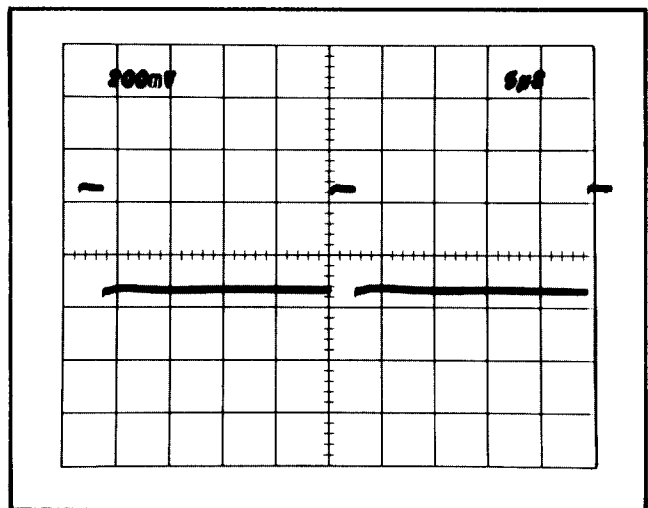

Fig. 5-16. CRT display when checking sweep holdoff time.
- c. CHECK—The holdoff time is 3.5 μ s or less (see Fig. 5-16).